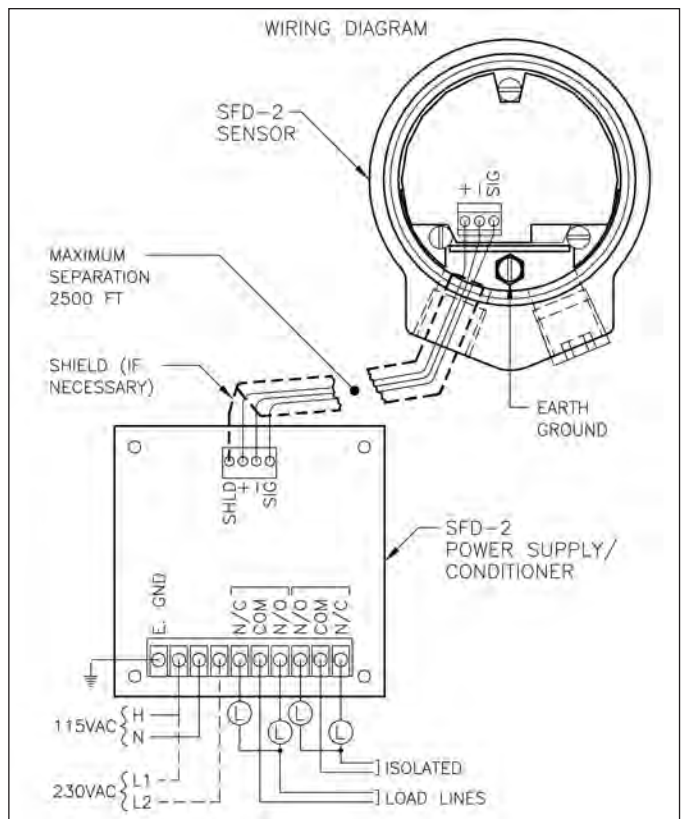

Figure 10
**1) Sensor to Power Supply/Conditioner** - (See Figure 10) Insure the sensor and power supply/conditioner are positioned closer than 2500 feet from each other. Interconnect the sensor to the power supply/conditioner via a 3-conductor cable. A shielded cable should be used when the cable is in close proximity to high voltage or heavy current switching wires. Recommended cable types are as follows: